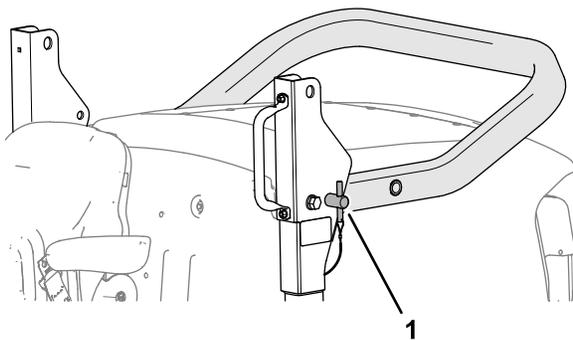

**Figure 20**
2. Remove the hairpins from the roll-bar pins in the pivot brackets of the lower roll-bar frame (Figure 20).
3. While supporting the weight of the upper roll bar, remove the roll-bar pins from the pivot brackets (Figure 20).